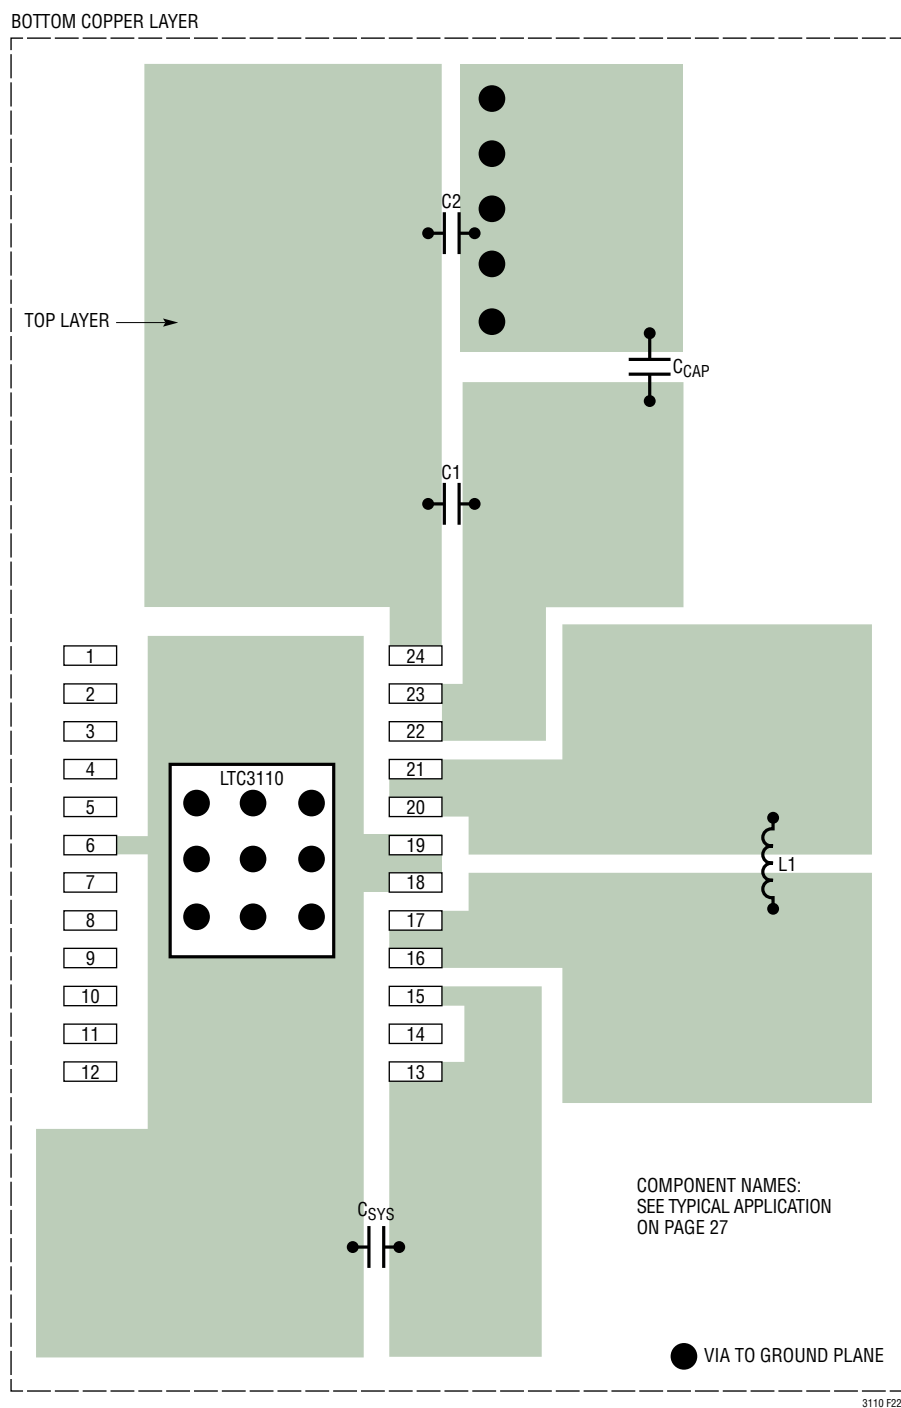

Figure 19. PCB Component Placement of the TSSOP Package
The LTC3110 switches large currents at high frequencies. Special care should be given to the PCB layout to ensure stable, noise-free operation. Figures 19 and 20 depict the recommended PCB layout to be utilized for the LTC3110, if a 2-layer PCB is being used. A 4-layer PCB layout is recommended for thermal and noise reasons. A few key guidelines follow:
1. All circulating high current paths should be kept as short as possible. This can be accomplished keeping the routes to the components in Figures 19 and 20 as short and as wide as possible. Capacitor ground connections should be connect by vias down to the ground plane in the shortest route possible. The bypass capacitors C_{SYS} and C_{CAP} should be placed as close to the IC as possible and should have the shortest possible path to ground.